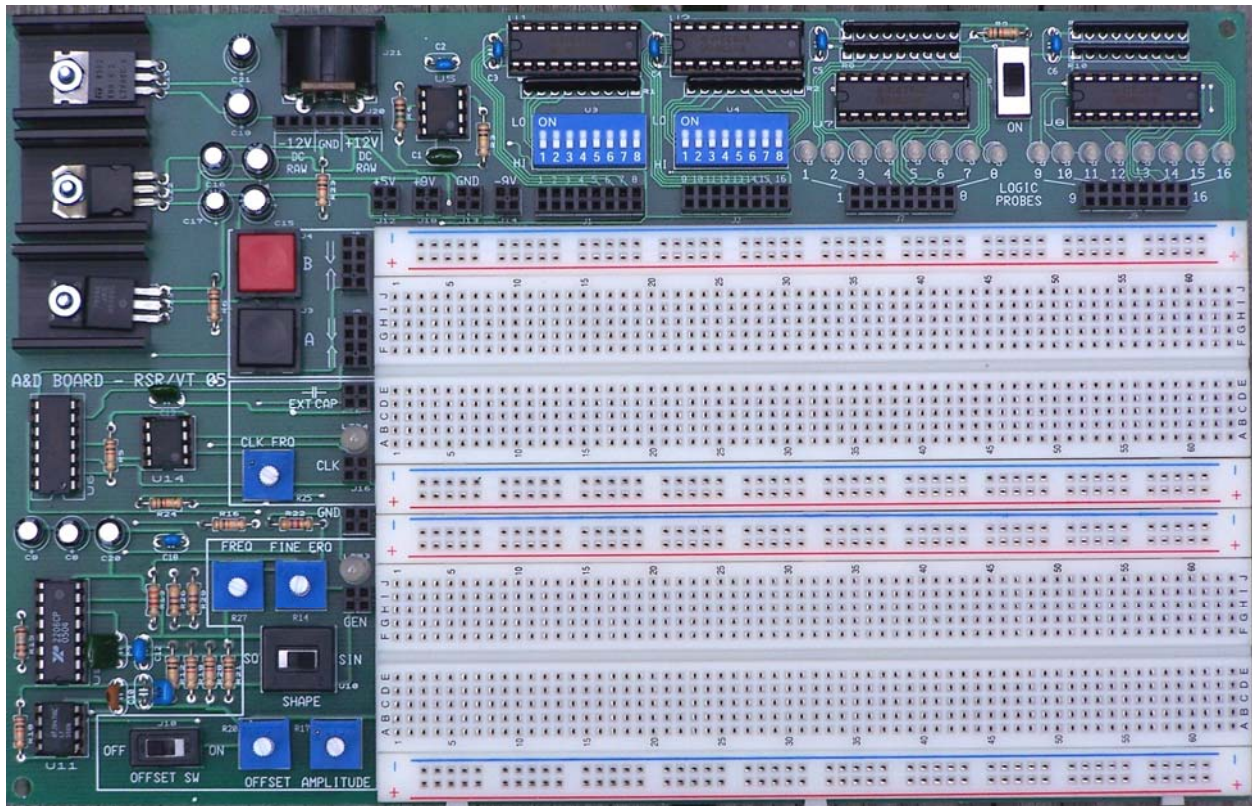

Figure 1: A&D Board
1. [] Work on a clean, non-conductive surface. Inspect the A&D Board for damaged components. Check that the integrated circuit chips are seated tightly in their sockets. Refer to Figure 1 for component layout.